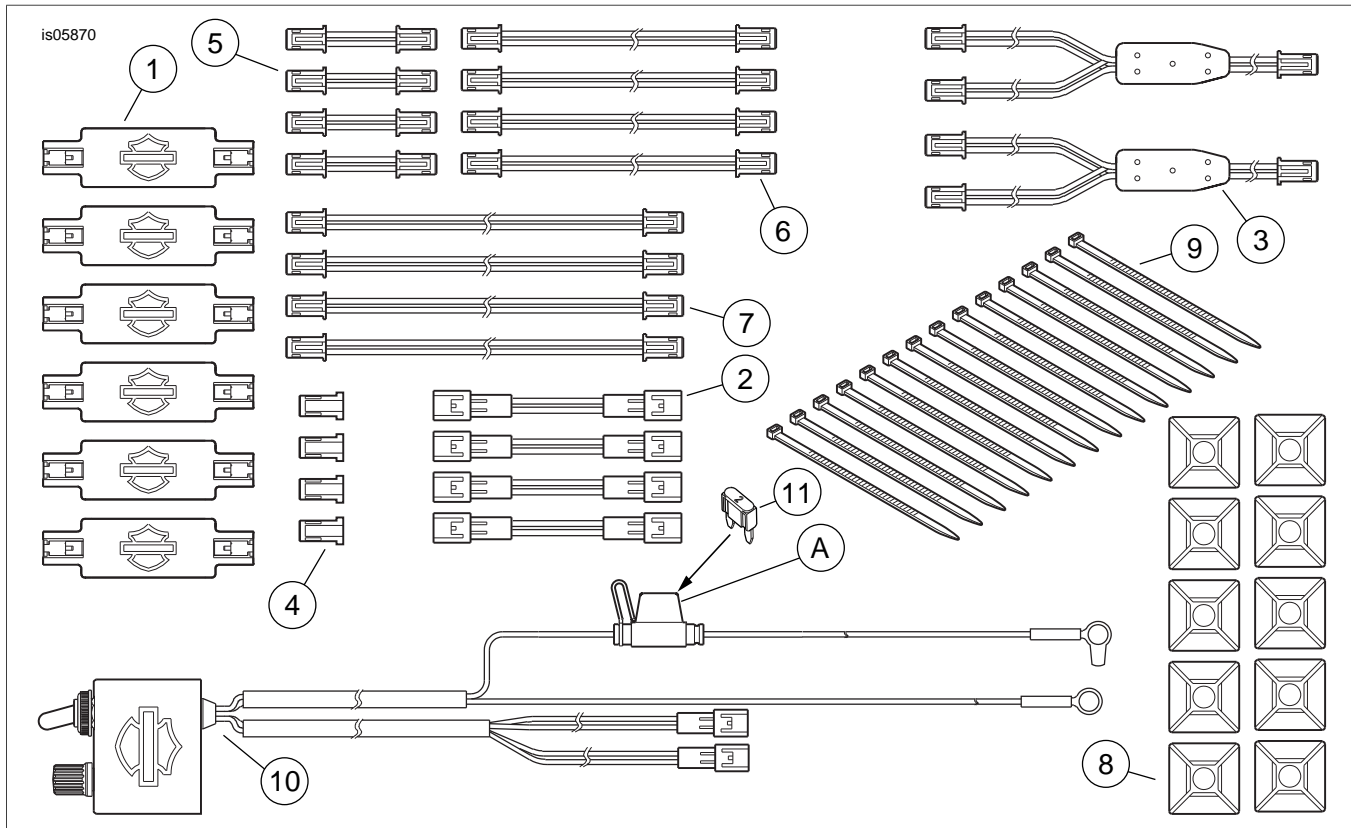
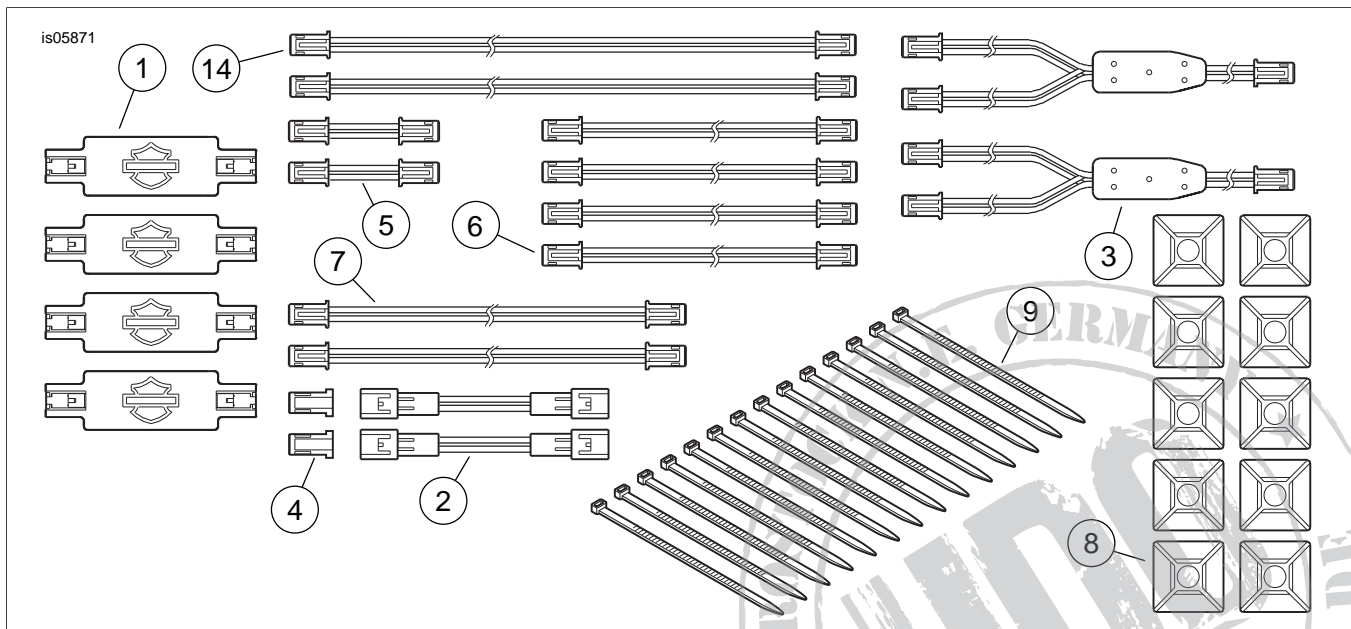

Figure 2. Service Parts, Electra-Glo Light Pod Kits
Figure 3. Service Parts, Electra-Glo Light Pod Expansion Kits
See Figure 2, Figure 3 and Table 3.
2. See Figure 2. Locate the controller box (10) on a flat surface that will allow the red (+) and black (-) leads to reach the battery terminals and the rider to access the controls (with the vehicle parked) and, if necessary, the in-line fuse holder (A).